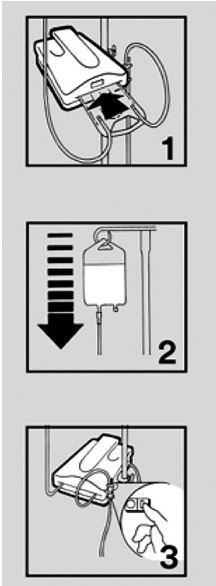

Figure 4
- 2. Slide the irrigation cassette into the slot in the warming unit. The cassette can only fit into the device one way (see Figure 4, #1).
- 3. Prime the warming set. For more information about priming the set, refer to instructions provided with the warming sets (see Figure 4, #2).
- 4. Plug the power cord into an appropriate outlet. Turn the unit ON (see Figure 4, #3). In a few seconds the alpha-numeric display will illuminate. It takes less than 2 minutes to warm up to the 41°C set point temperature.